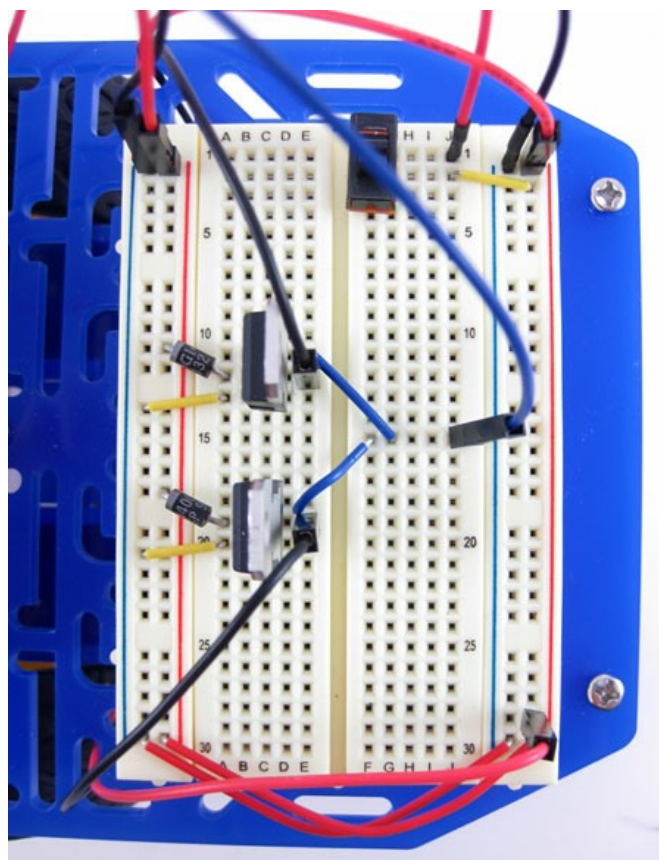

Figure 5. Your completed circuit should look like this.
2. Now that you know how to use a breadboard, you are ready to assemble your BlueBot circuit. Table 2 shows a list of all the components in the circuit and where they go on the breadboard. You can download and print a [PDF](https://www.sciencebuddies.org/science-fair-projects/checklist-Robotics_p024-2019-4.pdf) (https://www.sciencebuddies.org/science-fair-projects/checklist-Robotics_p024-2019-4.pdf) of this table—complete with checkboxes to track each step—to use while you are building your robot. You can also view a slideshow (#breadboard-slideshow) that shows breadboard diagrams of the circuit. Follow along in the table and/or slideshow to build your circuit one component at a time. Your finished circuit should look like the one in Figure 5 (#figure5).